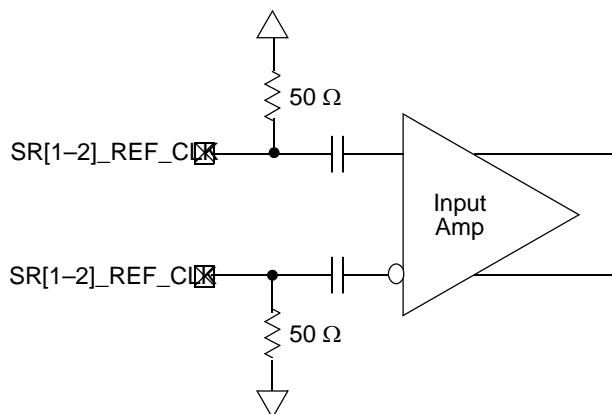

Figure 5. Receiver of SerDes Reference Clocks
The SerDes reference clock inputs are applied to an internal PLL whose output creates the clock used by the corresponding SerDes lanes. The SerDes reference clock inputs are SR1_REF_CLK/SR1_REF_CLK̄ or SR2_REF_CLK/SR2_REF_CLK̄. Figure 5 shows a receiver reference diagram of the SerDes reference clocks.
- The SR[1-2]_REF_CLK and SR[1-2]_REF_CLK̄ are internally AC-coupled differential inputs as shown in Figure 5. Each differential clock input (SR[1-2]_REF_CLK or SR[1-2]_REF_CLK̄) has on-chip 50- Ω termination to GND_{SXC} followed by on-chip AC-coupling.